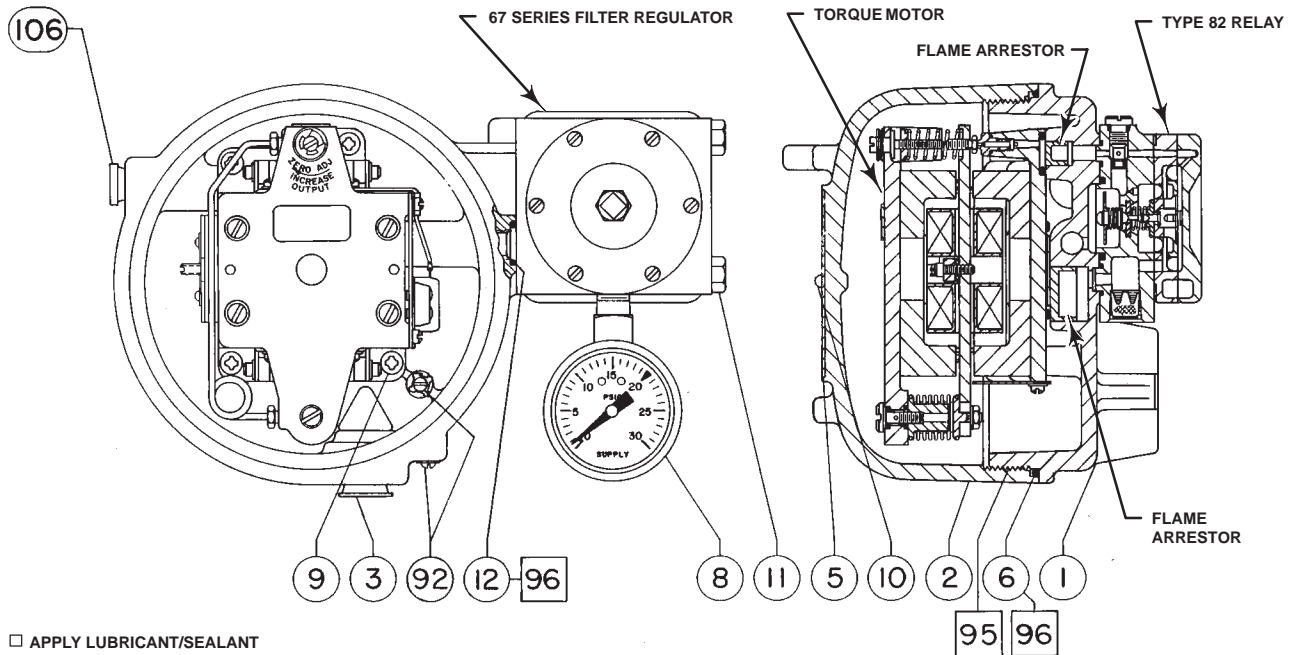

Figure 8. Type 546 Transducer Assembly
- b. Force the baffle away from the nozzle. The output pressure should drop to less than 1 psig (0.07 bar). If it does not, check the flame arrestors in the transducer case (see figure 8). If the flame arrestors require cleaning, first remove the torque motor assembly from the case by removing four machine screws (key 9, figure 8). Then, clean the flame arrestors by blowing them out with air pressure.
6. Check the nozzle. If it is clogged, remove the entire torque motor assembly from the case by removing four machine screws (key 9, figure 8). Run a wire through the nozzle from the underside of the assembly.
2. Disconnect the external lead wires from the terminal mounting bracket assembly (key 53).
3. Loosen the four machine screws (key 9, figure 8) that hold the torque motor assembly to the case. Remove the entire torque motor assembly from the case.
4. Loosen the two flexure pivot screws (key 25) that hold the flexure pivot to the torque motor assembly base.
6. Tighten the flexure pivot screws. Replace the torque motor assembly, and tighten the screws (key 9, figure 8). Make sure that the O-ring (key 37) is in place. Connect the external lead wires, and turn on the air supply.
1. Loosen the two mounting screws (key 68), and remove the relay assembly from the transducer case (key 1, figure 8).
2. To install the replacement relay assembly, install the two relay mounting screws (key 68) into the relay assembly. Apply lubricant (key 96) to the O-rings, and make sure the O-rings (keys 72, 73, and 74) are in place on the relay assembly.
| Type 546, 546S, & 546NS Transducers (figure 8) | | | 96 | Lubricant, Molykote 33 (not furnished with unit) | |